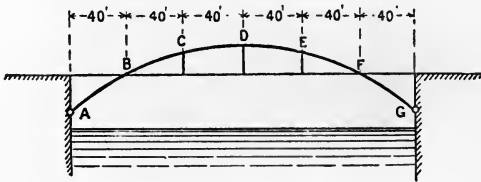

Fig. 6.
6. The two-pin parabolic arch ADG represented in fig. 6 has a span of 240 feet and a rise of 48 feet. Due to the roadway vertical forces of 20 tons act on the arch at the points B, C, D, E, F . Assuming that the arch is of uniform section throughout and that the abutments are perfectly rigid, determine the horizontal thrust at the hinges, and draw the bending moment diagram for the arch.